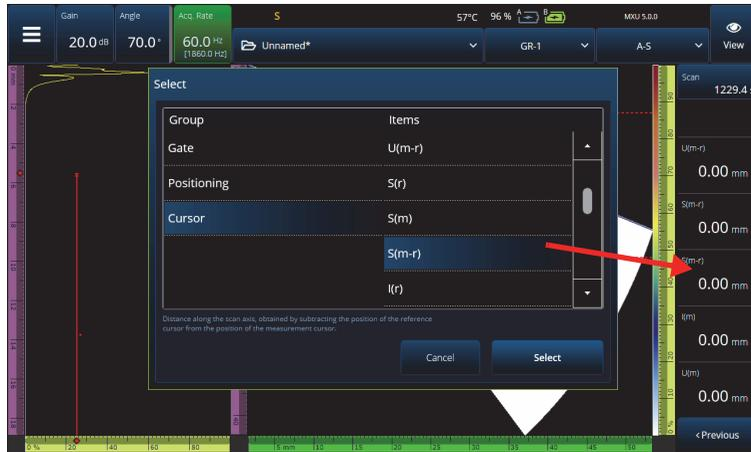

Figure 2-47 Reading selection example
- b) With **Select Reading**, you can replace one specific reading with any of the available readings (Figure 2-47 on page 79).